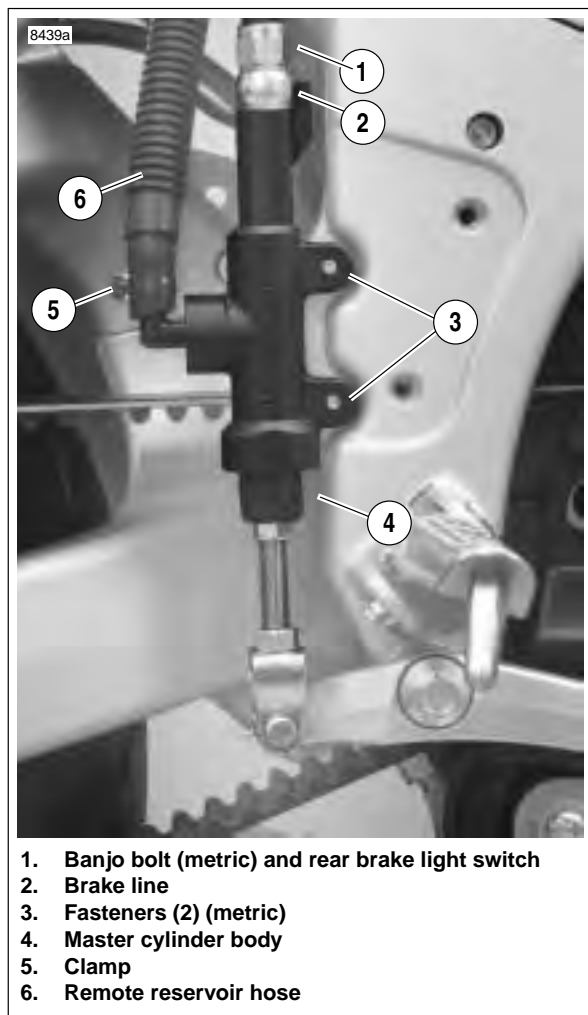

**Figure 2-48. Brake Bleeder Valve, Rear Caliper**
5. See Figure 2-48. Remove and discard piston orings (6).
1. See Figure 2-48. Drain brake fluid into a suitable container. Discard used fluid according to local laws.